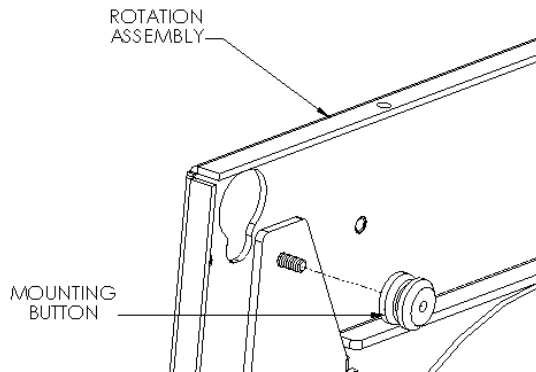
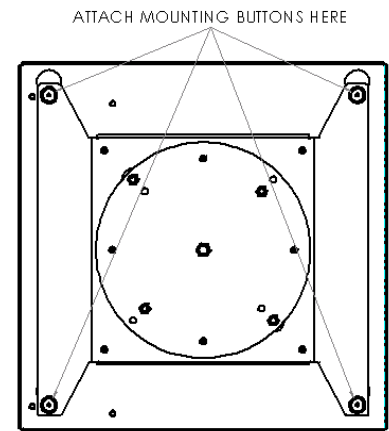

Figure 2
Figure 3
2. Attach mounting buttons to Rotation Assembly, making sure the buttons are securely fastened. (see Figure 2 & Figure 3).